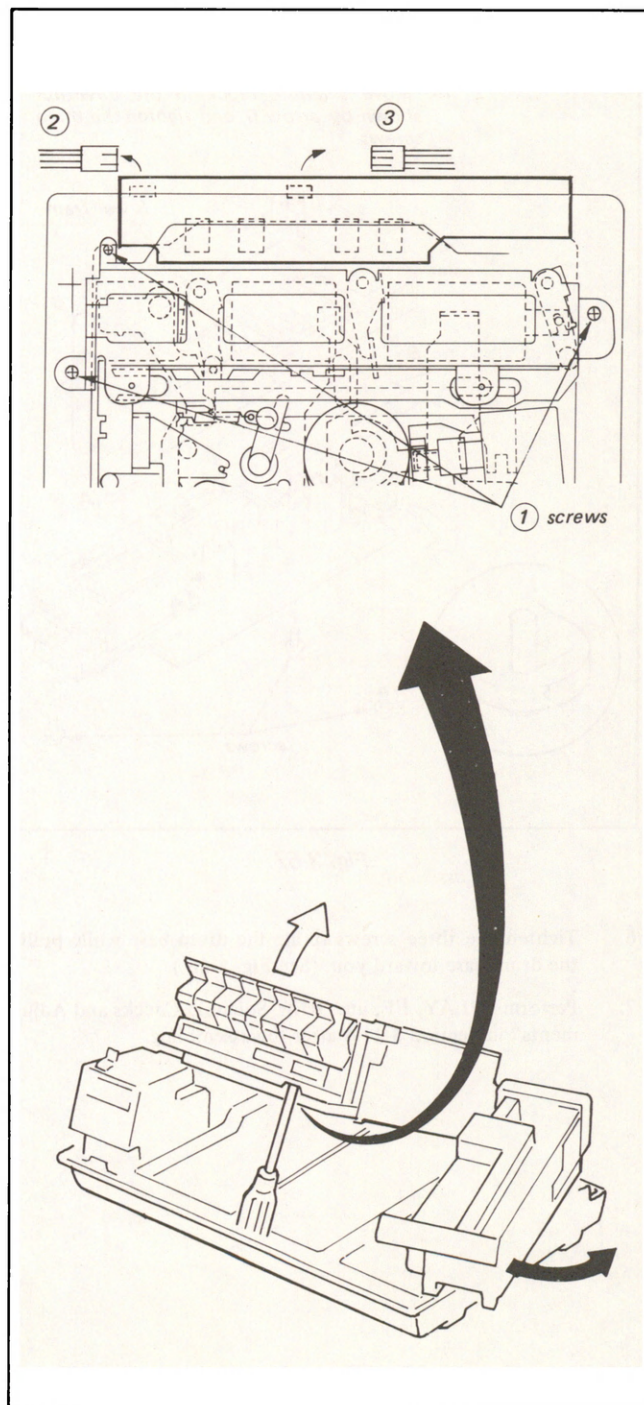

Fig. 3-66.
3. Pull up the drum base edge close to you and keep it from falling by a stick in 20cm length or a screwdriver as shown in Fig. 3-66.
4. Remove three screws ① and two connectors ② and ③ shown in Fig. 3-66. The PLAY, FF and REW solenoids can be replaced.
6. Tighten the three screws fixing the drum base while pulling the drum base toward you. (See Fig. 3-66.)